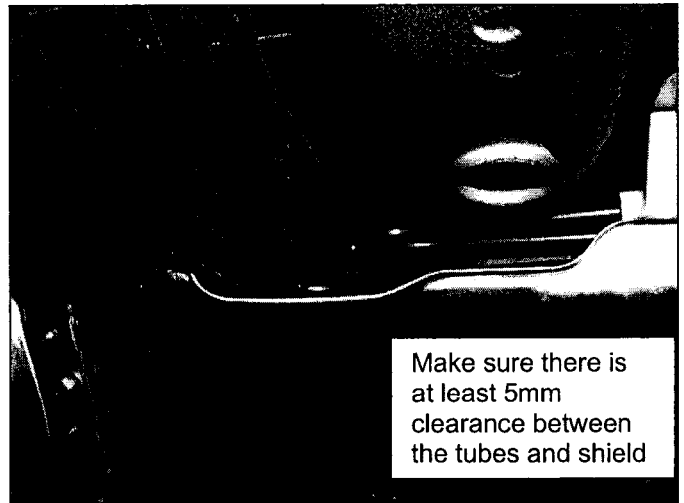

Figure 11
- d. Confirm there is at least 5mm clearance between the black metal tubes and the front of the LH shield (see Figure 11).